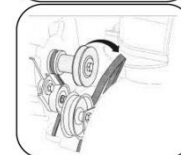

Figure 13
3. Roll the auger belt off the engine pulley. See Figure 13.